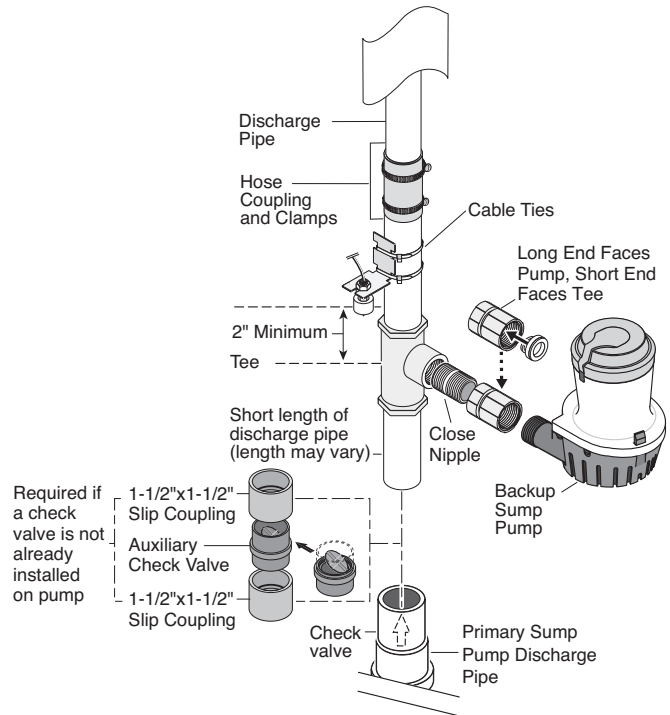

FIGURE 5: METHOD B INSTALLATION
1. Make a second cut in the discharge pipe at the pencil mark made in Step 1 and set the cut-off piece of discharge pipe aside. See Figure 5.
**NOTE:** There must be a check valve installed in the Primary Sump Pump discharge between the tee and the Primary Sump Pump. This will prevent recirculation into the Primary Pump when the Back Up Sump Pump comes on. See Figure 5.